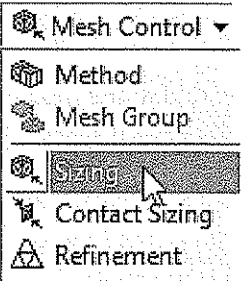

Figure 8-5 Partial view of the Mesh Control drop-down
- 1. Choose the **Sizing** tool from the **Mesh Control** drop-down in the **Mesh** contextual toolbar, as shown in Figure 8-5; **Sizing** is added under the **Mesh** node in the Tree Outline. Also, a question symbol is attached to **Sizing** indicating that values for this field are yet to be satisfied.